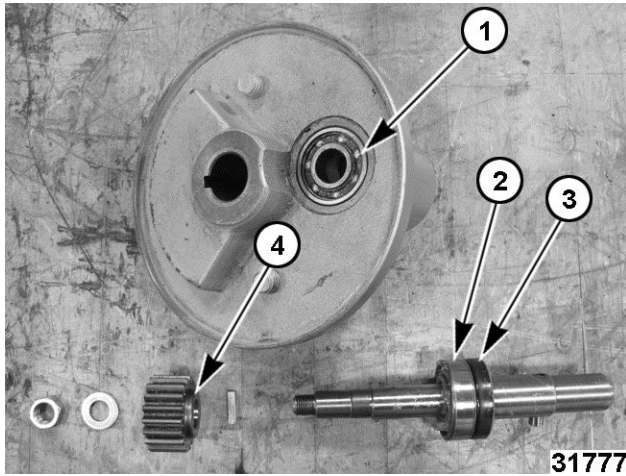

Fig. 7
NOTE: Pinion shoulder (4, Fig. 7) is oriented toward bearing.
- Drive upper planetary bearing (1, Fig. 7) from planetary.
- Pull off lower planetary bearing (2, Fig. 7)
- Remove oil seal (3, Fig. 7)